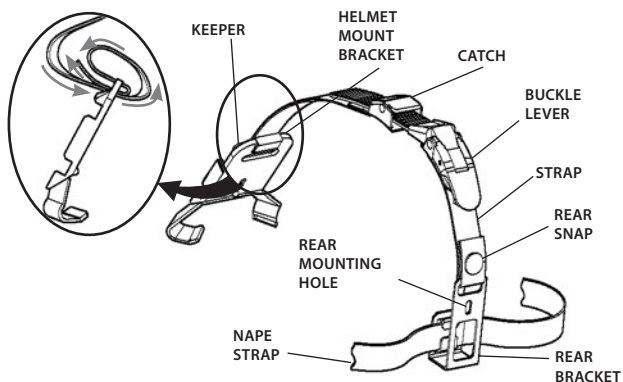

Figure 3-11. Installation of Helmet Mount
(1) Remove the helmet mount from the carrying case. Refer to Figure 3-11 for helmet mount features.